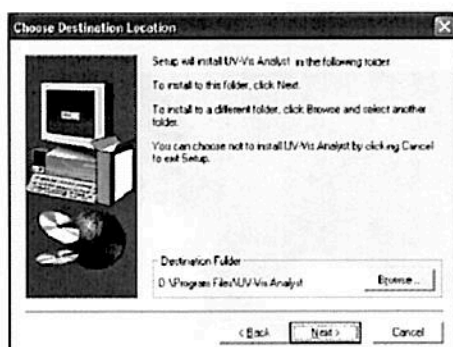

Fig. 2-3
5. Select setup directory (Fig. 2-3). Click **Next**.